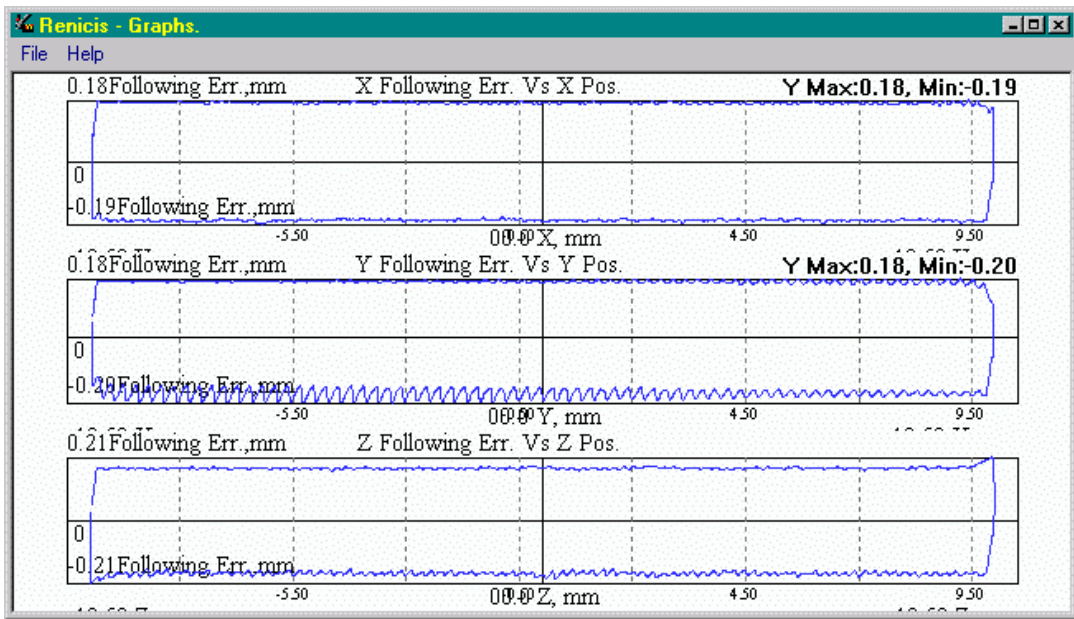

Figure 21
Continue increasing the value of  $K_{P1}$  until one of the axes reaches the brink of instability (refer to figure 21), then reduce the value by approximately 20% to give a stability margin and re-check for stability. If the system is stable and no oscillations are apparent then this value is called the “*Uncompensated Proportional Gain*”  $K_{P2}$  (and is set automatically to be the same for all axes).
If any axes become unstable (Y axis in figure 21), reduce  $K_{p1}$  by 20% and check again, see step 2.
3. If the machine is stable, increase the uncompensated gain by a further 10 – 20%. If the machine is displaying instability as for the Y axis in figure 21, increase the value of  $K_A$  (refer to step 2) in the unstable axes by a further 0.00005 (to do this follow step 2) and repeat the uncompensated gain test.